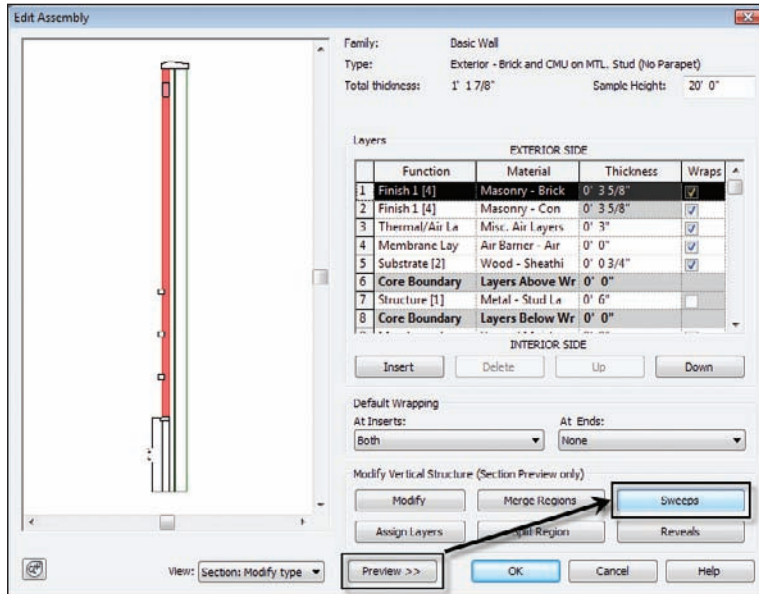

FIGURE 7.21 Without the preview checked on, you will not be able to modify the parapet sweep.
7. In the Edit Assembly dialog, make sure the Preview button has been checked, as shown at the bottom of Figure 7.21.
8. Click the Sweeps button, as shown in Figure 7.21.